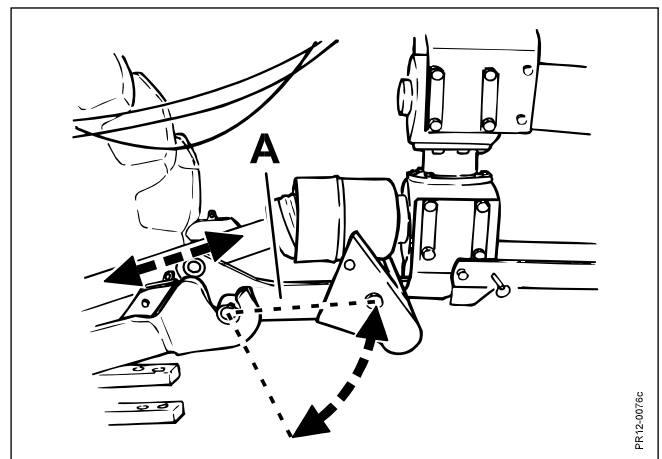

Fig. 2-5
- Fig. 2-5**
- has more than 200 mm overlapping in any position (referring to situations where the safety drive (shock absorbers of the TOP SAFE system) will be released e.g. by collision with partly buried stones, see Fig. 2-5).